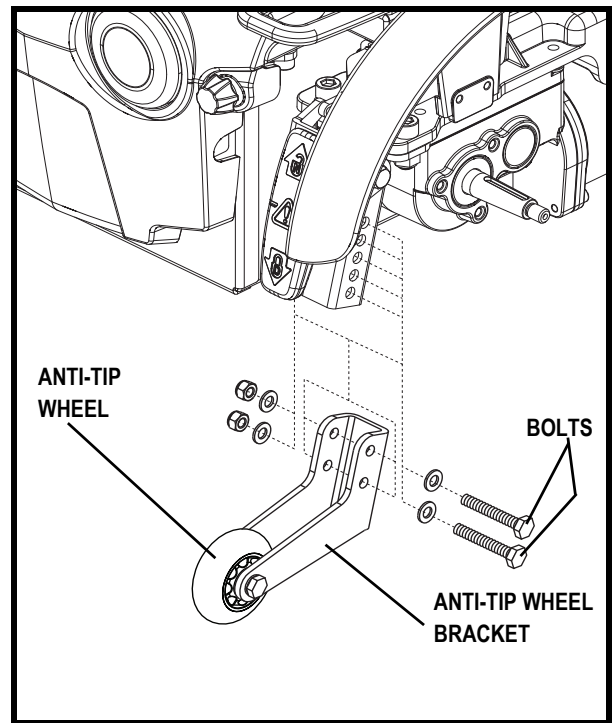

Figure 15. Anti-Tip Wheel Assembly
1. Remove both bolts from the anti-tip wheel bracket. See **figure 15**.
2. Raise or lower the anti-tip wheel in 1.25-cm (0.5-in.) increments by aligning the appropriate adjustment holes. See **figure 15**.